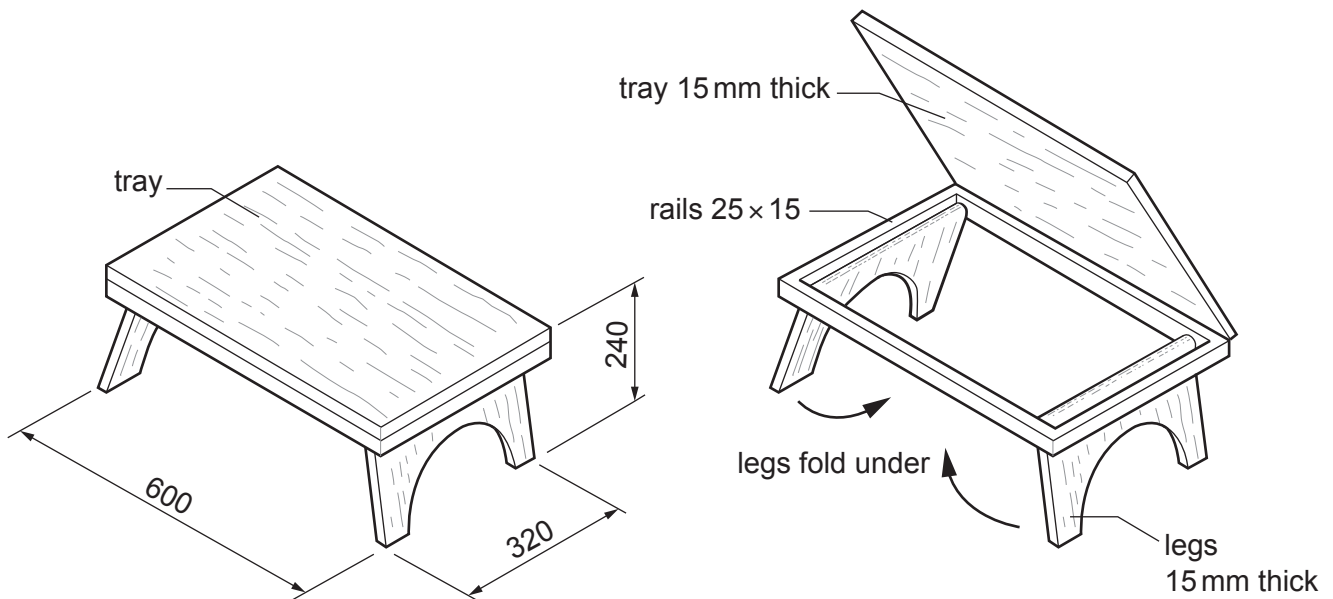

Fig. 13.1
- 13** Fig. 13.1 shows views of an incomplete design for an adjustable tray that could be used by a person sitting up in bed. The tray can be used in the flat position or tilted and locked at different angles. The tray is made of manufactured board. The rails and legs are made of hardwood.